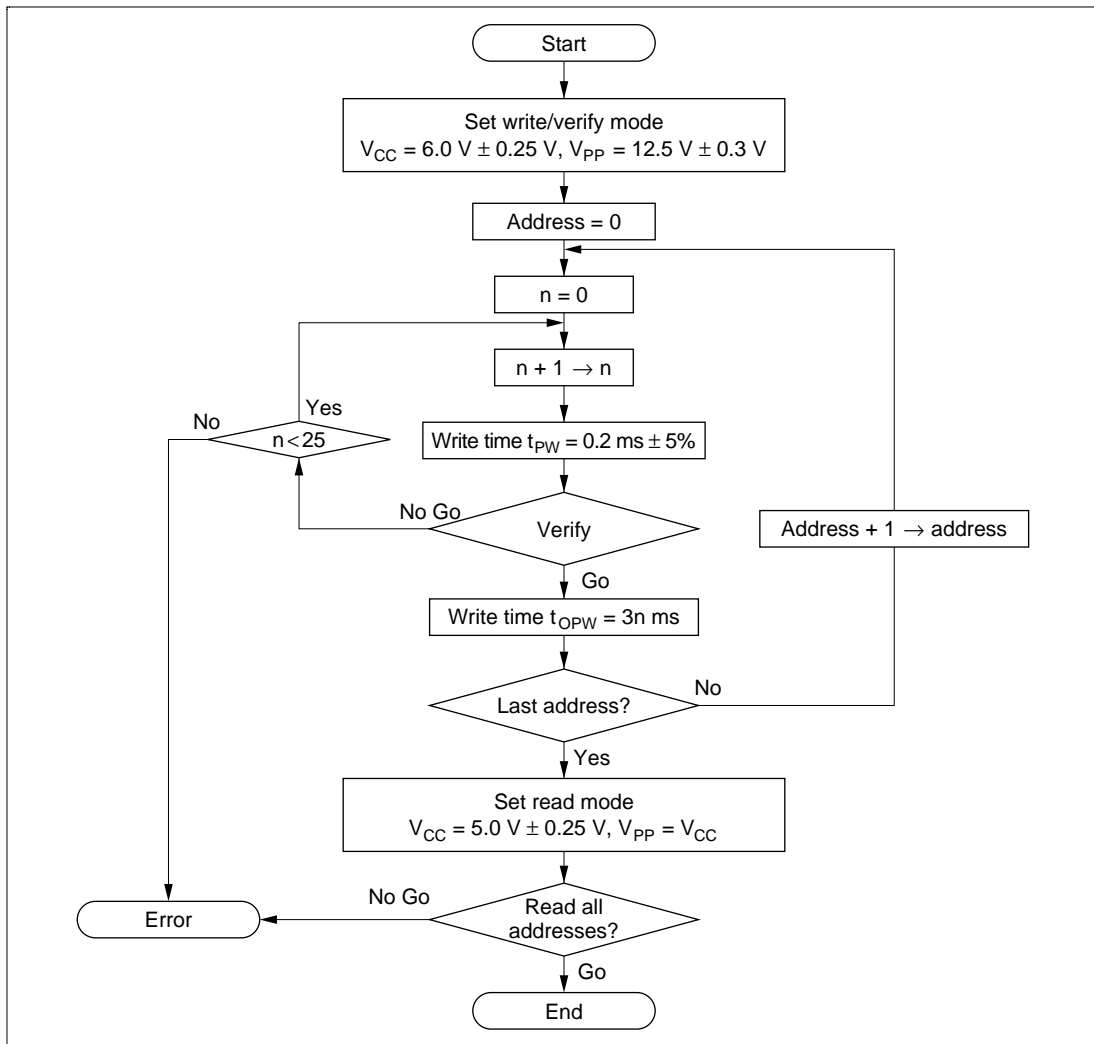

Figure 6.4 High-Speed, High-Reliability Programming Flow Chart
An efficient, high-speed, high-reliability method is available for writing and verifying the PROM data. This method achieves high speed without voltage stress on the device and without lowering the reliability of written data. The basic flow of this high-speed, high-reliability programming method is shown in figure 6.4.
- t_{OPW} is defined by the value given in figure 6.4, High-Speed, High-Reliability Programming Flow Chart.